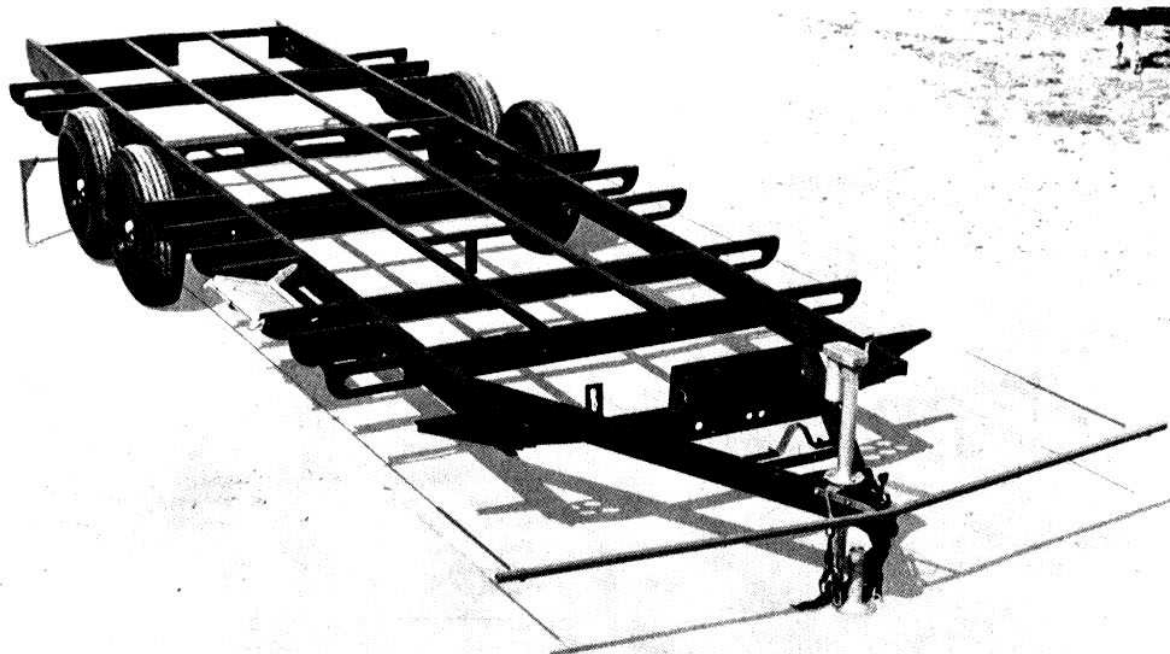

Fig. 18
8. Adjust the length of the cables alternately until there is sufficient spring tension on each to keep them taut and straight. (See Fig. 18).
HIENSCHEN TOE GAUGE (Part #3410007) (Fig. 18)